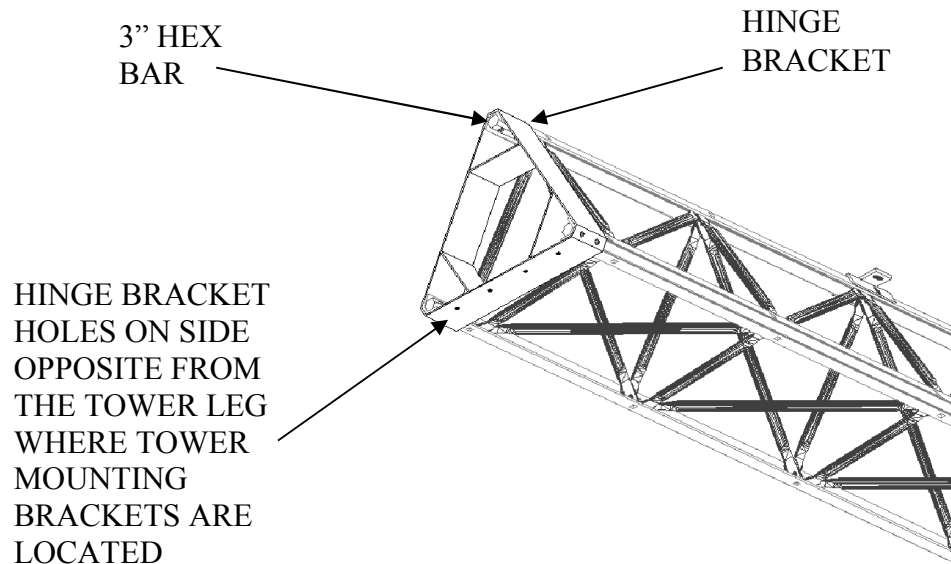

Figure 3 – Hinge Bracket Mounted with 3" Hex Bars
- Attach one of the hinge brackets (item 10) to the top of the bottom tower section (item 4) using the 3" hex spacer bars (item 6) and $7/16'' \times 2''$ hex bolts and hardware (items 26, 29, 30). Ensure that the holes on the hinge bracket for the hinge assembly are facing the top of the tower section and that these holes are on the opposite side of the tower leg that has the 4" mounting bracket and winch mounting bracket (items 8, 14). See Figure 3.